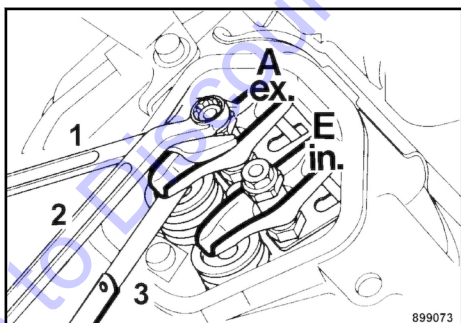

Fig. 176
1. A feeler gauge of appropriate thickness ↪ Fig. 176 must fit with little resistance between rocker arm and valve.